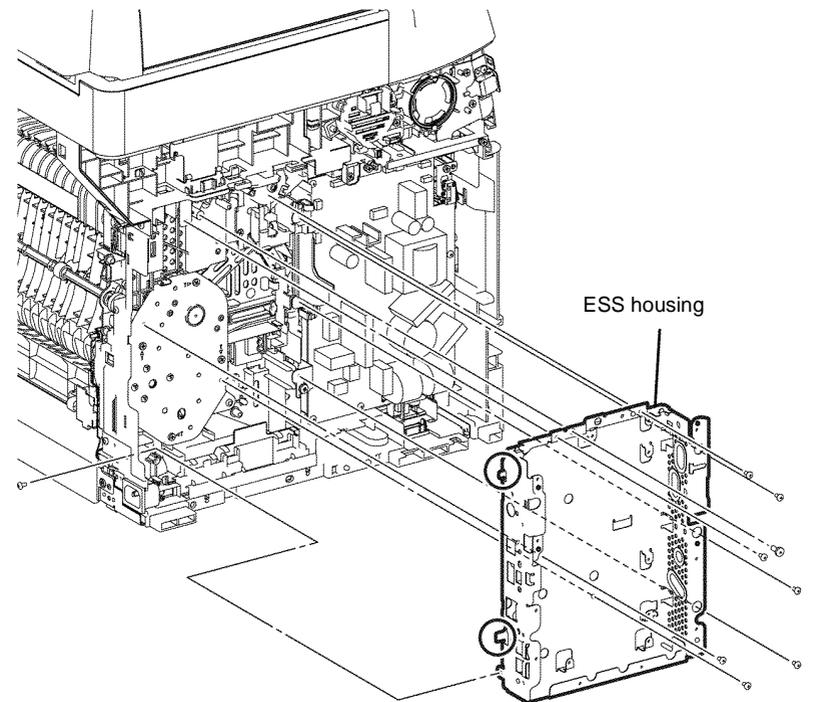

Figure 1 ESS housing removal
11. Remove six screws (silver, M3, 6mm) and one screw (silver, tapping, M4, 10mm), that fix the ESS housing. Release the two tabs from the frame, then remove the ESS housing from the printer, Figure 1.